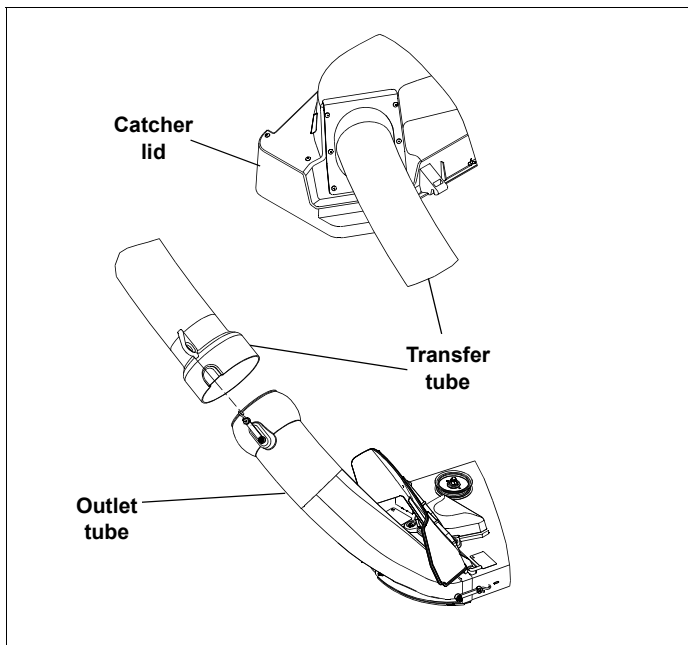

Figure 4-1
- **Outlet tube is in place and secured on the discharge chute outlet and deck. Figure 4-1**
- **Transfer tube is secured in place, with the three elastic straps, on the outlet tube and is inserted into the catcher lid. Figure 4-1**
Never engage the mower deck unless the catcher transfer tube is secured in place, with the elastic strap, on the outlet tube and is inserted into the catcher lid. Figure 4-1